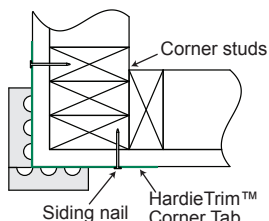

Figure 5
- For wood frame construction, attach trim to building using min. 2, 6d siding nails fastened through the HardieTrim Corner Tabs attached to minimum 7/16" OSB *. (Figure 5)